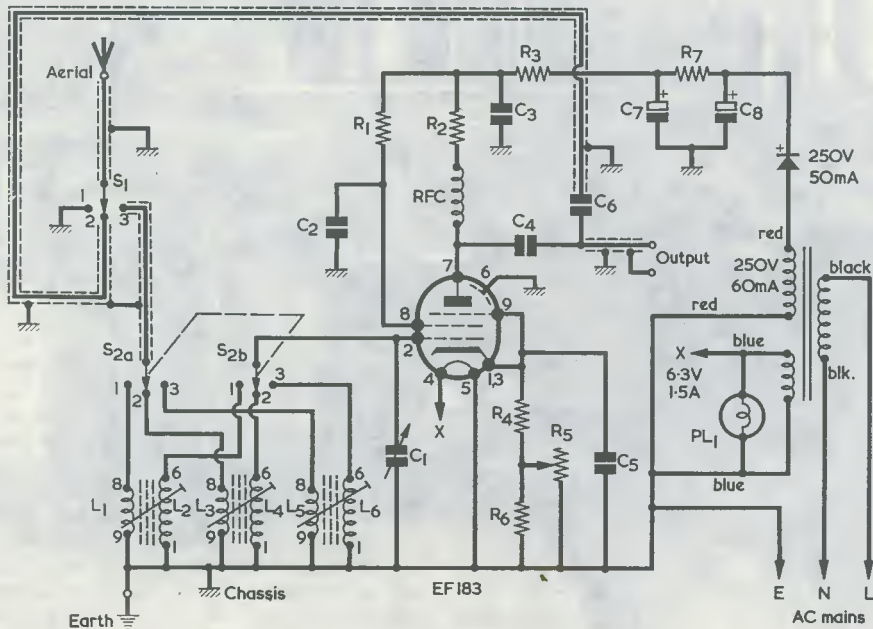

Fig. 1. Circuit of the 3-Band self-powered Preselector
The circuit diagram is shown in Fig. 1 and, in this, it will be seen that the aerial input is fed direct to the arm of switch  $S_1$ . The inclusion of this switch enables the operator to (1) short-circuit the aerial to chassis—this being a useful facility when using a crystal standard; (2) bypass the preselector and feed the aerial input direct to the receiver input terminals via  $C_6$ ; and (3) feed the aerial directly into the preselector circuit.